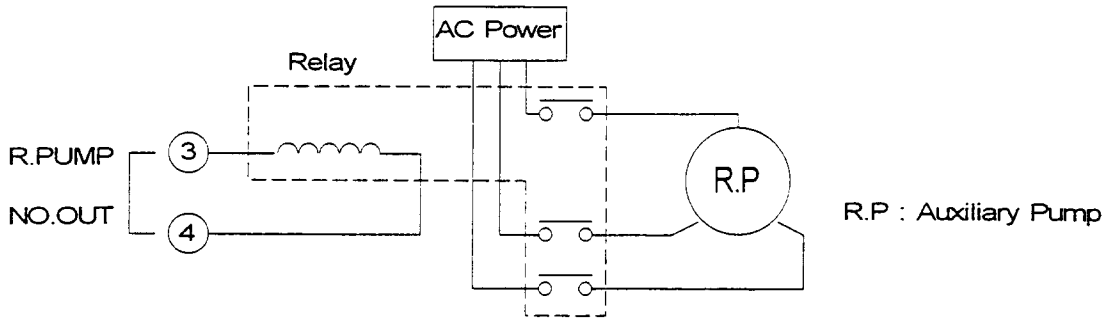

Figure 8.2 Example of Connecting I/O TB2 R. Pump Terminal
⑳ AC.POWER ⑱ 	Terminal for inputting power for driving the baking heater, auxiliary pump and air cooling unit. The voltage input to this terminal is output to the specified terminal block through operation of the STP pump.
② HEATER ① 	Terminal for connecting the baking heater. In either case of the following two types of operation under the NORMAL OPERATION state, voltage input to the AC power terminal (⑱-⑳) is output to this terminal. 1) Turn ON the HEATING switch on the front panel through MANUAL Operation . 2) Short the circuit between I/O TB3 HEATING terminal ②-④ through REMOTE Operation (See Section 7.3.2, "Interlocking the STP Pump Operation with Baking").
④ R.PUMP ③ 	Terminal for starting the auxiliary pump. The voltage input to the AC. POWER terminal (⑱-⑳) is output to this terminal through the STP pump rotation. DO NOT connect the auxiliary pump directly. Use separate power and a relay. Use another power and a relay. See Figure 8.2. <div style="display: flex; align-items: flex-start;"> <div style="border: 2px solid black; padding: 5px; margin-right: 10px;"> NOTICE </div> <p>If the I/O TB3 (①-③) is opened, it is diagnosed as abnormal auxiliary pump, the "FAILURE" lamp lights and the power is cut OFF.</p> </div>